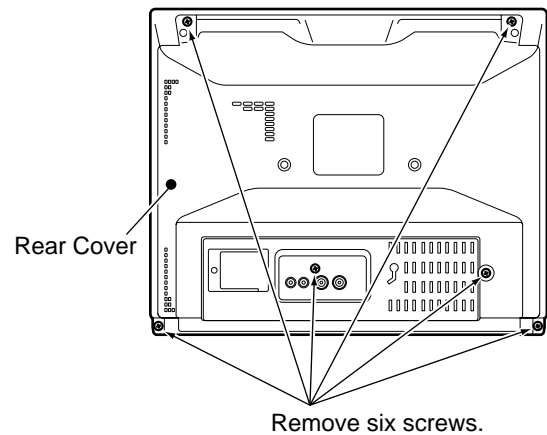

Fig. 2-4
- Referring to Fig. 2-4, remove six screws that secure the Rear Cover and remove the Rear Cover.